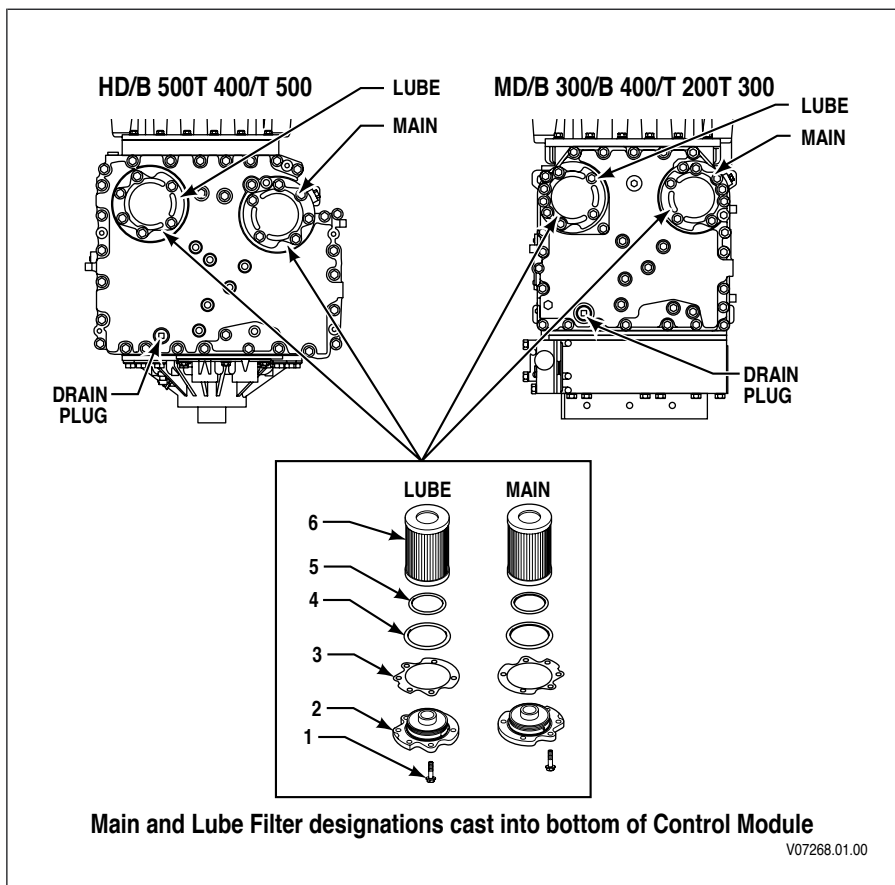

Figure 2-3. Location of Filters for Service
b. Standard Fluid/Filter Change Procedure (Figure 2-3).